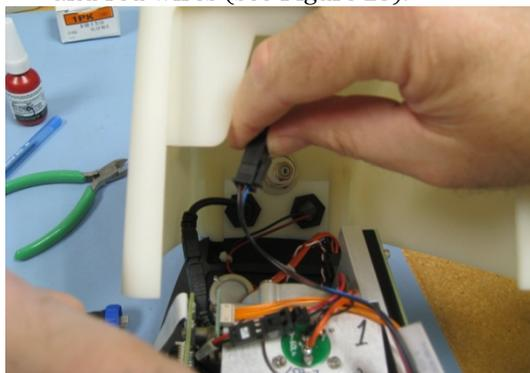

Figure 25. Disengaging the power harness
- 3 Disengage the power harness from the instrument. The power harness is identifiable by its 4-pin connector and the blue, black and red wires (see Figure 25).